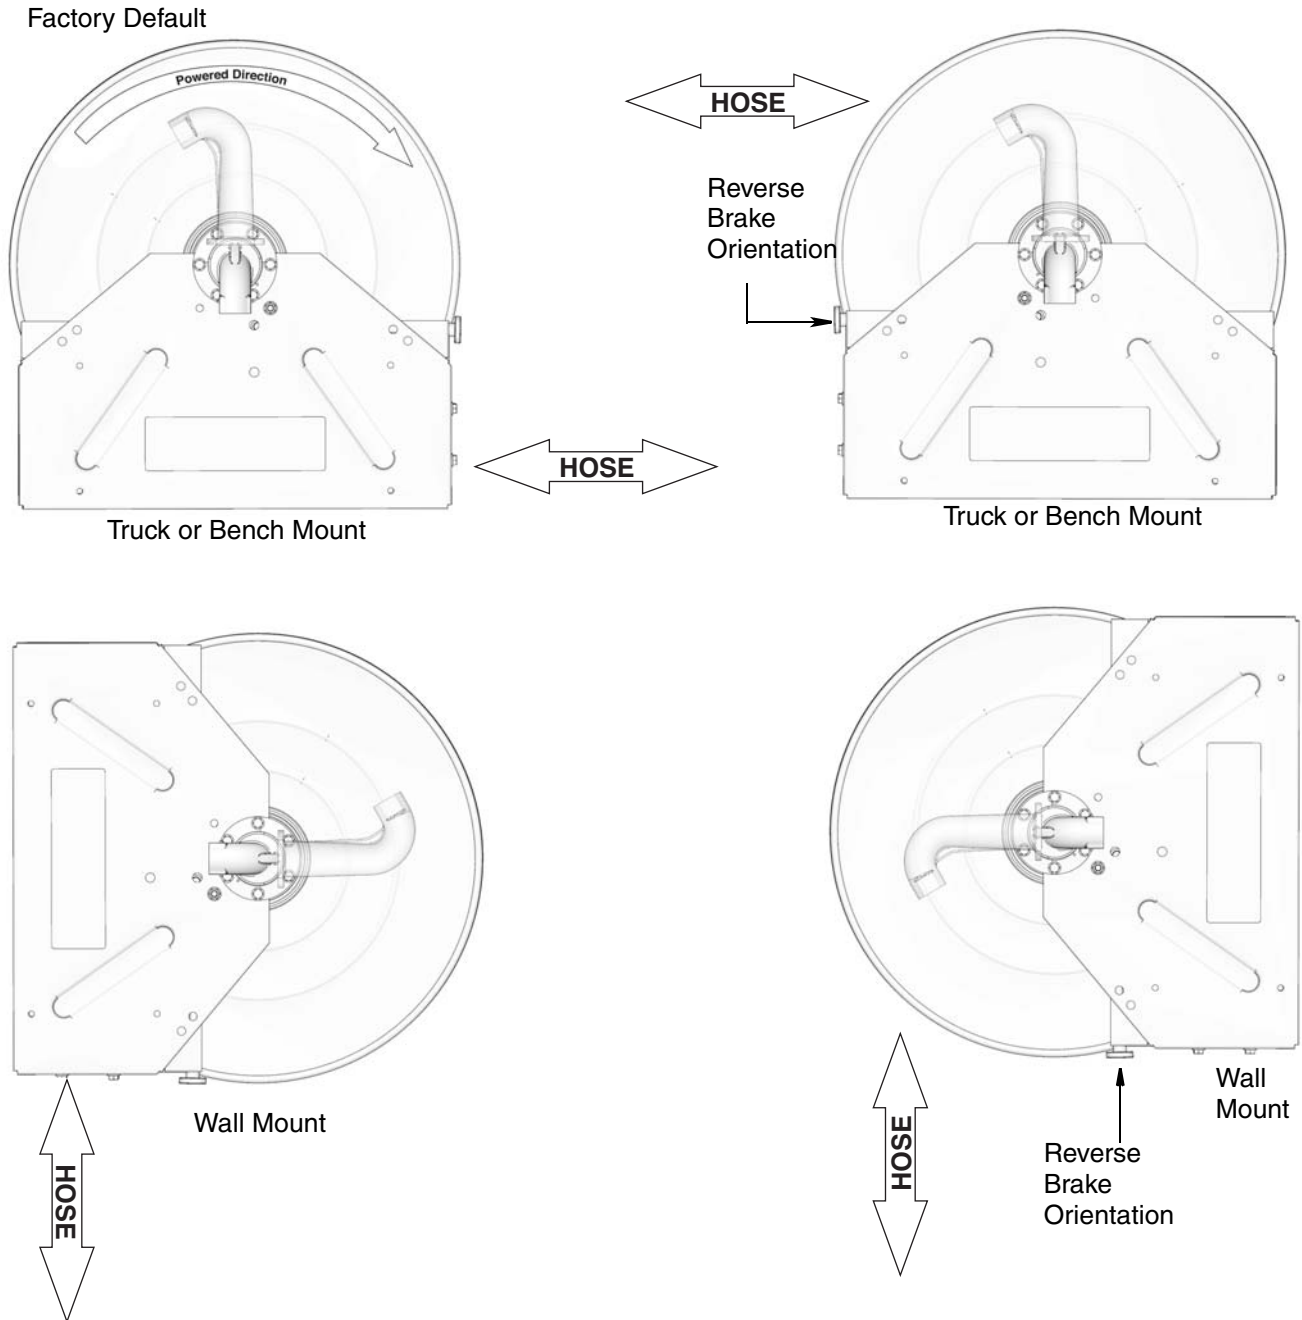

FIG. 7: Inlet Side Shown
The outlet (17) orientation and motor (26) rotation can be altered as shown in FIG. 7-FIG. 8.
In the configurations shown in FIG. 7 the motor turns counter-clockwise under power when viewed from the motor side of the reel. All four configurations shown in FIG. 7 have the factory standard motor rotation and outlet orientation.
3. Determine correct orientation for outlet (17) for your installation location. Refer to Outlet Orientation and Motor Rotation, FIG. 7, page 9 and FIG. 8, page 10.